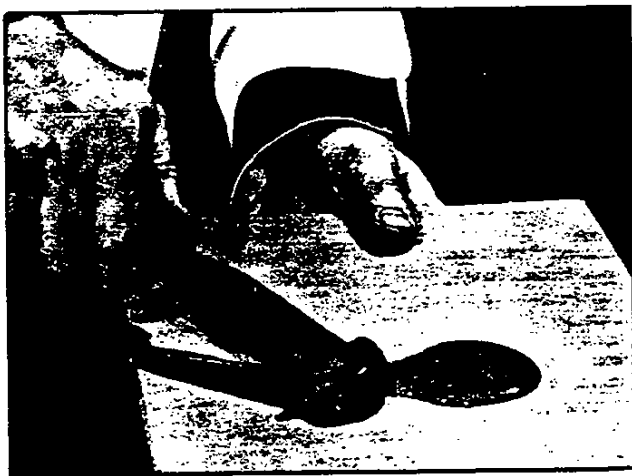

Fig. 49—Mixing Plastic Solder Material
- Mix the materials (fig. 49).